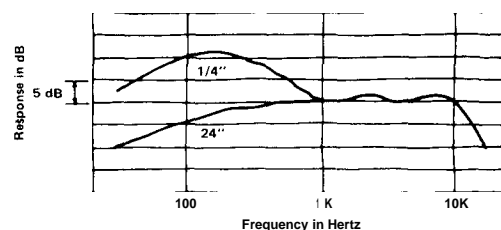

FIGURE 12-'Single-D' Proximity Effect
**Two vastly Different Types of Cardioid Microphones.** A 'Single-D' cardioid gives big bass. The simple cardioid microphone described previously (the one with a single port located in the case) has a frequency response which varies strongly with working distance! As shown in Figure 12, at one-quarter inch, the bass response is boosted fifteen dB over the response at 24 inches and beyond! In engineering terms, this type of cardioid is called a "Single-D", named for the single distance between the rear sound entrance and the diaphragm.